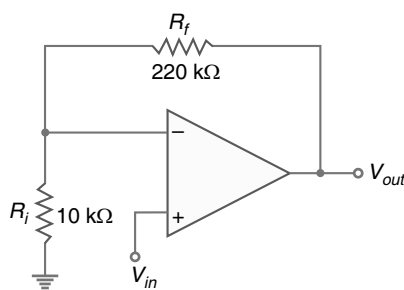

Fig. 23.68
**Example 23.41.** (i) Determine the input and output impedances of the amplifier in Fig. 23.68. The OP-amp data sheet gives  $Z_{in} = 2 \text{ M}\Omega$ ,  $Z_{out} = 75 \Omega$  and open-loop gain of 200,000.